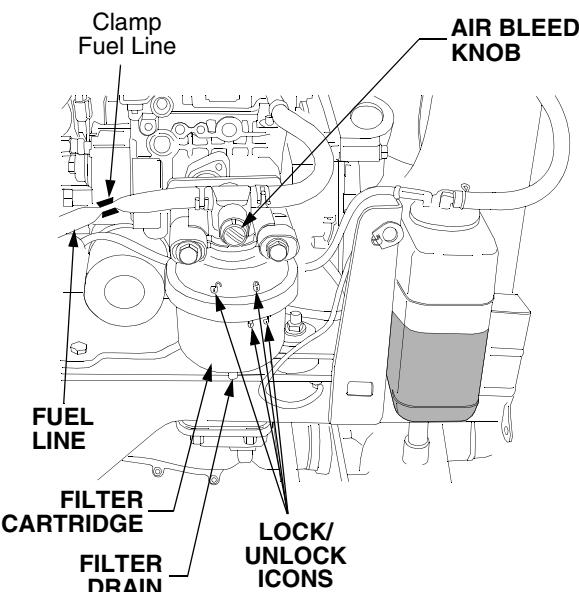

Figure 58
- Slowly turn the air bleed knob counterclockwise until fuel begins to seep out around the bleed knob. Turn the air bleed knob clockwise to close. Refer to Figure 58.
- Clamp the fuel line just to the rear of the fuel filter. See Figure 58.
- Turn the filter approximately 1/4 turn counter-clockwise (as viewed from bottom) to align the unlock icons. Refer to Figure 58.